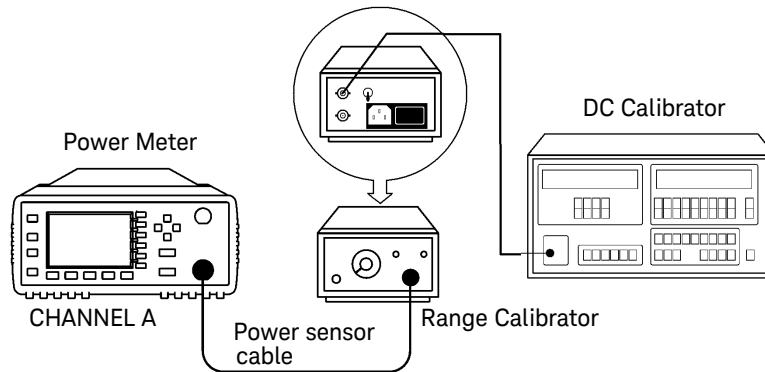

Figure 2-5 Instrument Accuracy (Average Path) Test Setup
- 1 Connect the equipment as shown in Figure 2-5.
- 3 **Figure 2-5** shows the HI/LO outputs of the DC calibrator connected to the DC reference input of the range calibrator. Ensure that the Guard and LO output of the DC calibrator are floating, and are not connected to the earth ground.